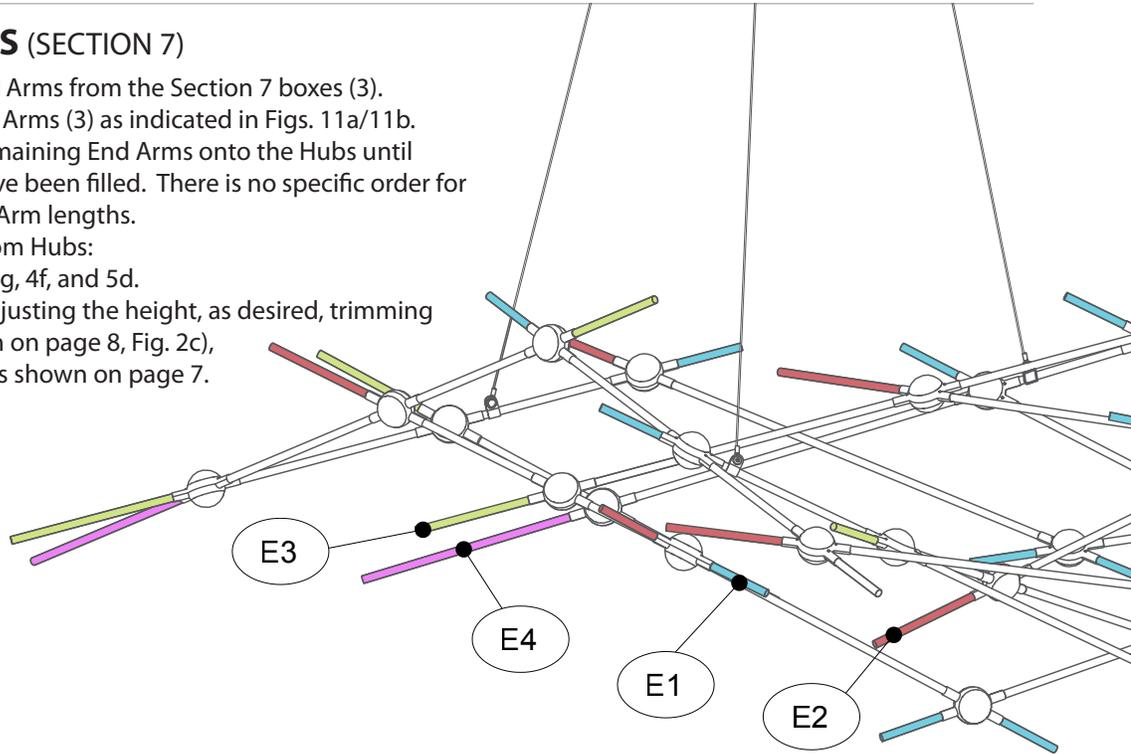

Fig. 11a - Front View
- Build this section using the End Arms from the Section 7 boxes (3).
- Start by connecting the E4 End Arms (3) as indicated in Figs. 11a/11b.
- Remove the Hub Labels (12) from Hubs: 1c, 1e, 1i, 2a, 2d, 2e, 2i, 3a, 3b, 3g, 4f, and 5d.